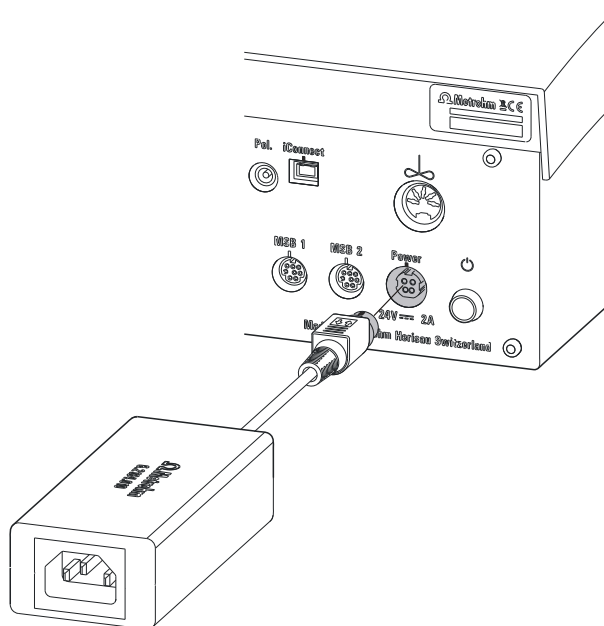

Figure 3 Connect power supply unit
- 1 Connect the plug of the external power supply unit with the power socket of the Ti-Touch (see figure 3, page 13).